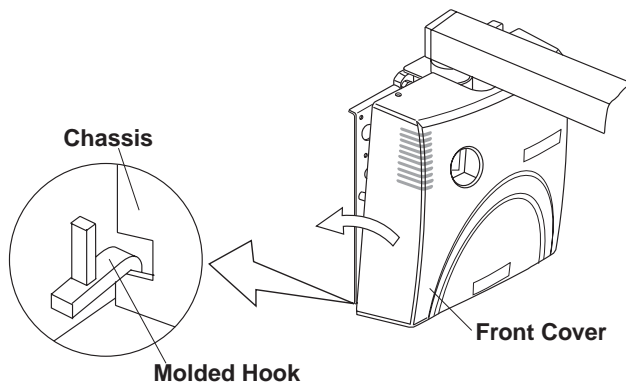

**Fig.3-8** Connecting 2P and 8P Connectors on Power PC Board
- Connect **2P** and **8P** connectors of horizontal arm cable to the respective connectors on power PC Board. (Fig.3-8)
- Connect the 2 wires with ring terminals from the arm cable to the chassis with a M5 screw. The arm cable should be secured to the chassis by a nylon cable clamp to prevent damage from twisting. (Fig.3-8)